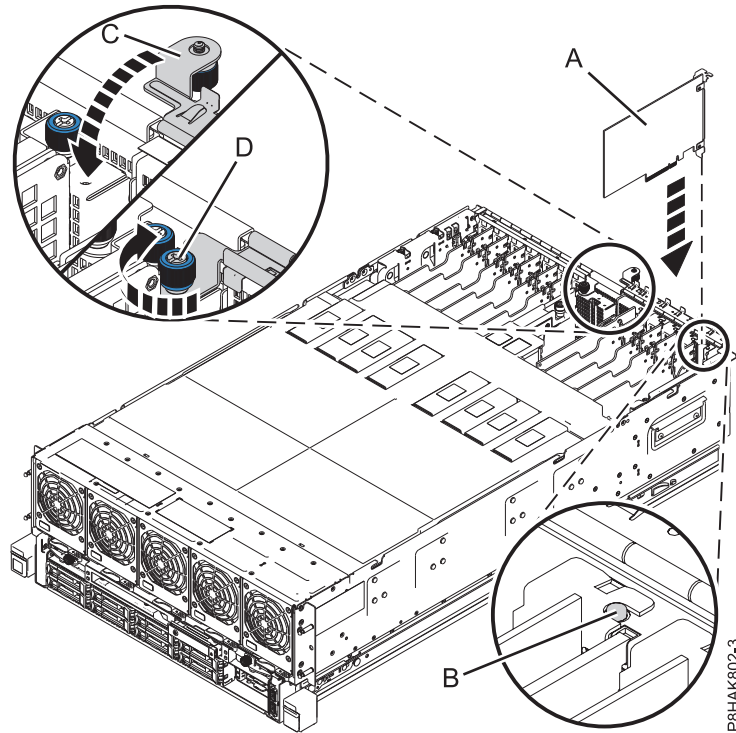

Figure 4. Installing or replacing a PCIe adapter in the 8408-44E or 8408-E8E system
6. Carefully grasp the adapter by its top edge or tailstock, and align the adapter with the slot and its connector on the system backplane (A), as shown in Figure 4 on page 7.
8. Ensure that the tailstock notch engages with the pin on the system's chassis. See (B) in Figure 4 on page 7.
9. Close the I/O retention bracket (C) by rotating it down and then tighten the captive thumbscrew (D) until it is secured to the system's chassis. See Figure 4 on page 7.